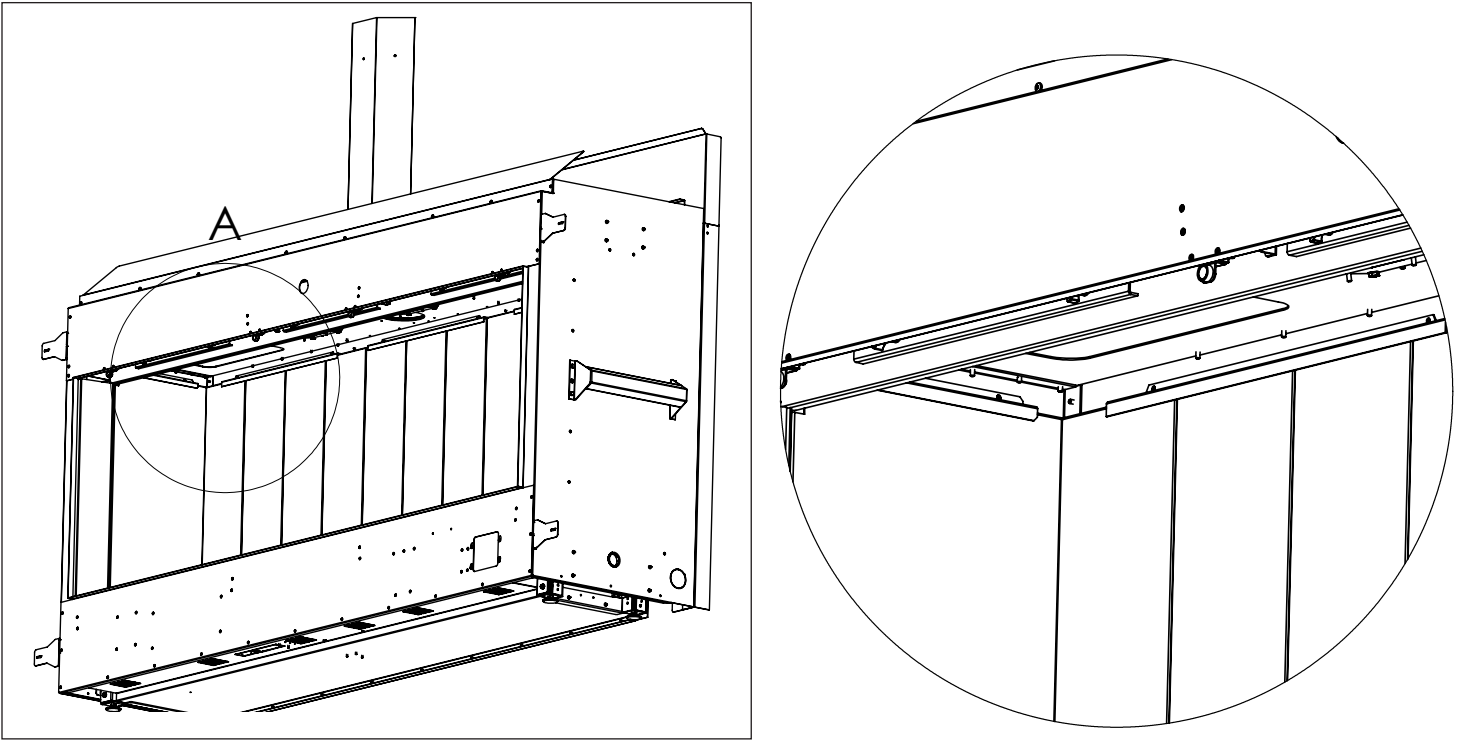

Figure 58: Panel Installation
3. Remove the 3 back liner retainers from inside the firebox, loosen screws using a T-20 Torx screwdriver. Remove the left and right side as well. there is one retainer on each side. See Figure 58. The retainers are key slotted so they can be removed without removing the screws. Remove the existing steel liners starting with the sides first.